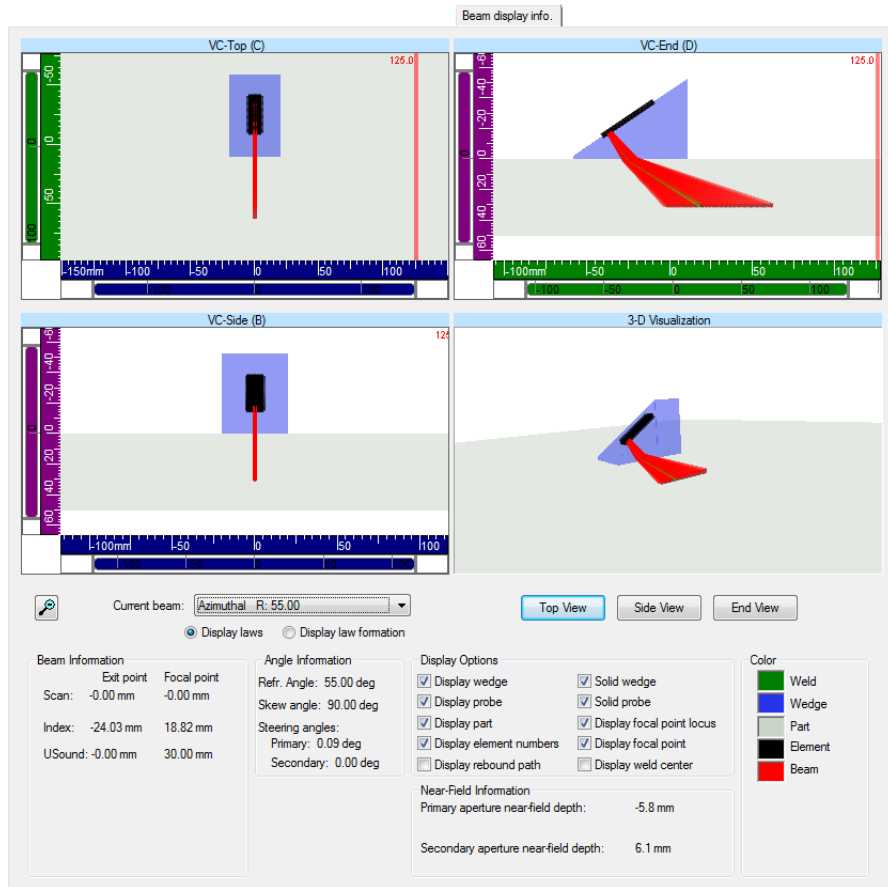

Figure 4-11 Example of the Beam Display Info. tab in the Advanced Calculator
- n)* Use the four views and the parameters below the views to validate the calculated beams (see Figure 4-11 on page 237).